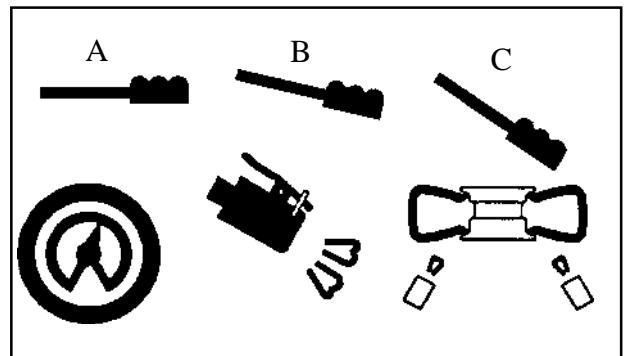

Fig 14
**⚠** During this phase of work the level of noise can reach 85db (A). It is advisable to use a noise protection.
• Press the pedal down to intermediate position (B - Fig. 14).
• If the bead of tyre is not well seated, due to a strong bead, lift tyre manually until the upper bead seals against the rim, then press pedal all the way down (C - Fig. 14). A strong jet of air will be released through the nozzles in the slides and this will help the bead seal.
• Release the tyre; set the pedal in the intermediate position (B - Fig. 14) and continue to inflate the tyre with short jets of air and constantly checking the pressure between air jets until the required pressure has been reached.